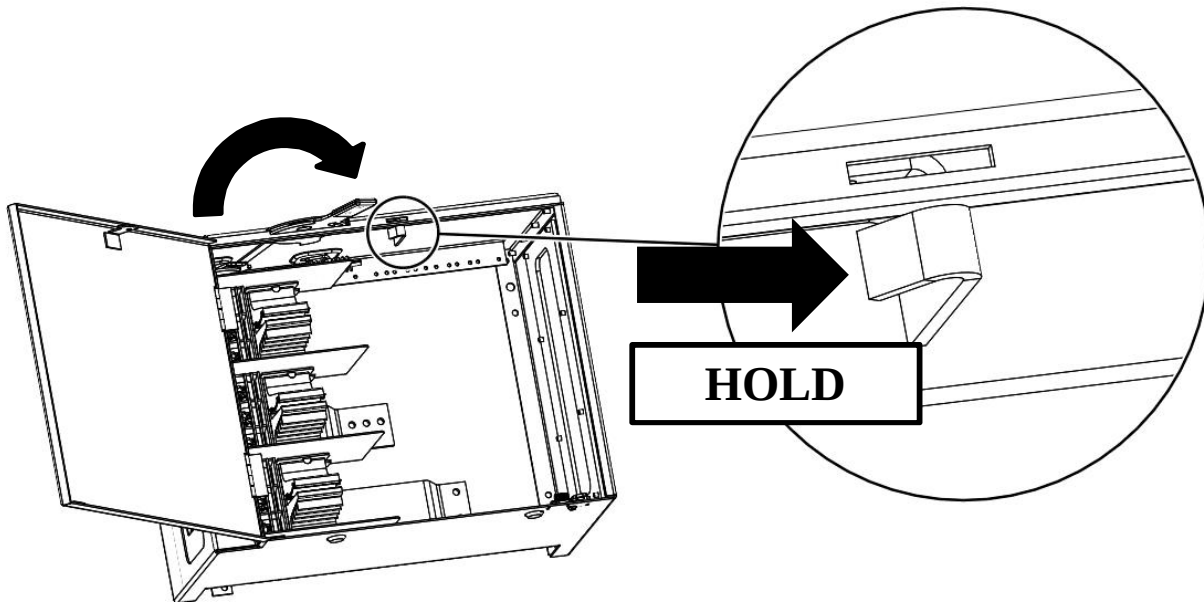

Figure 5
5. Turn switch handle to ON position while restraining the cover interlock from moving as shown in Fig. 5.